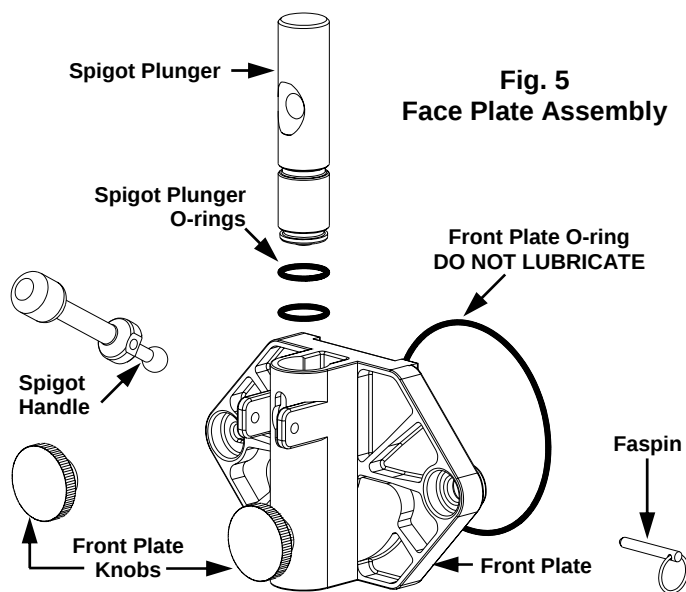

Fig. 5
5. Remove the front plate by turning the black plastic knobs in a counterclockwise direction (Fig. 5).